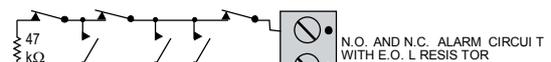

Figure 3 - E.O.L. Wiring Example
3.2 Auxiliary Input Wiring (Fig. 3)
Normally Closed (N.C.) as well as Normally Open (N.O.) sensor contacts can be used, as shown in figure 3. A 47kΩ E.O.L. resistor must be wired at the far end of the zone loop.